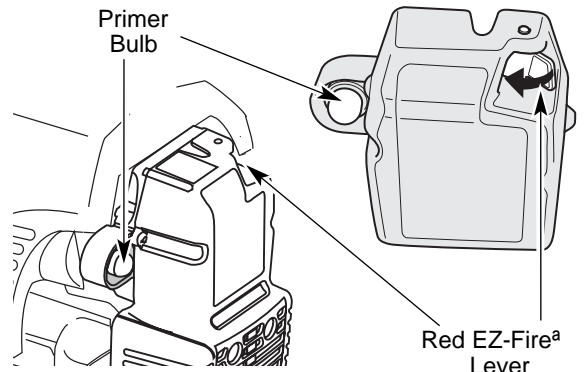

Fig. 10
1. Move the throttle control to the idle position (🐢). Allow the engine to cool down by idling (Fig. 10).
2. Put the On/Off Stop Control in the OFF (O) position (Fig. 10).
2. The On/Off Stop Control is in the ON (I) position at all times (Fig. 10).
3. Fully press and release the primer bulb 10 times, slowly. Some amount of fuel should be visible in the primer bulb and fuel lines (Fig. 10). If you can't see fuel in the bulb, press and release the bulb as many times as it takes before you can see fuel in it.
5. Push the red EZ-Firea Lever towards the primer bulb until it clicks and locks into place (Fig. 10).